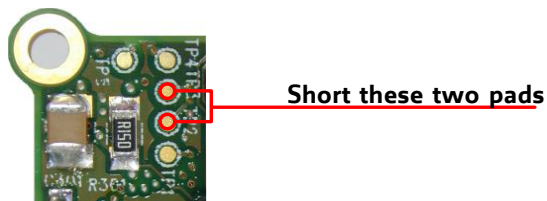

Figure 4.1 Reset to factory default settings
For this procedure two pads on the bottom side of the board have to be shorted (see Figure 4.1).
2. Short two pads as marked in Figure 4.1